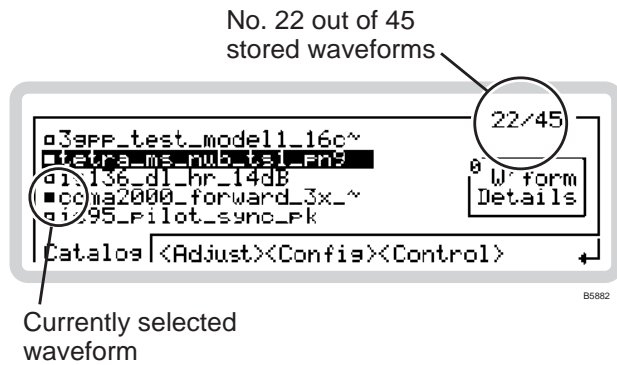
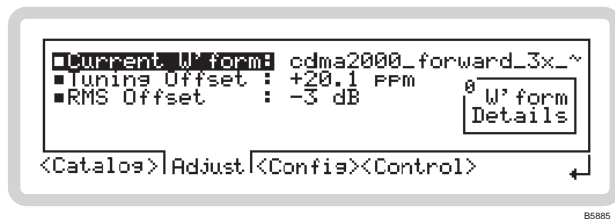
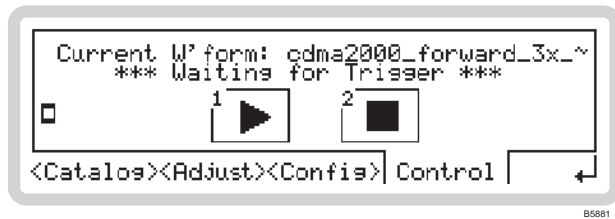

Fig. 3-29 ARB catalog
Fig. 3-30 ARB adjust
Fig. 3-32 ARB control
- 2 Press **SIG GEN** to show the main screen, and touch the **IQ** soft box to select the function. Touch **Wform** and press **↵** to view the ARB catalog menu (Fig. 3-29).
From the ARB catalog menu of Fig. 3-29, touch <Adjust> or press **<TAB>** to display the ARB adjust screen (Fig. 3-30).
From the ARB catalog menu of Fig. 3-29, touch <Config> or press **<TAB>** to display the ARB configuration screen (Fig. 3-31).
From the ARB catalog menu of Fig. 3-29, touch <Control> or press to display the control screen (Fig. 3-32).